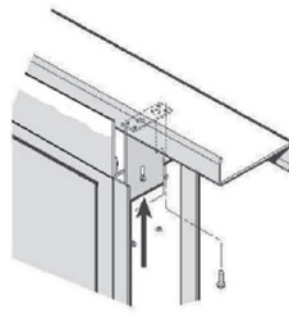

Figure 3
4. Back out the screws holding top jamb clips, and slide clips straight up to the girt. Secure the door to the girt through the girt clips with the self-drilling screws provided. (Figure 3)
5. Continue laying block, continually checking plumb and square of door. Repeat step 1 at approximately 48 and 80 inches A.A.F. (Figure 3)